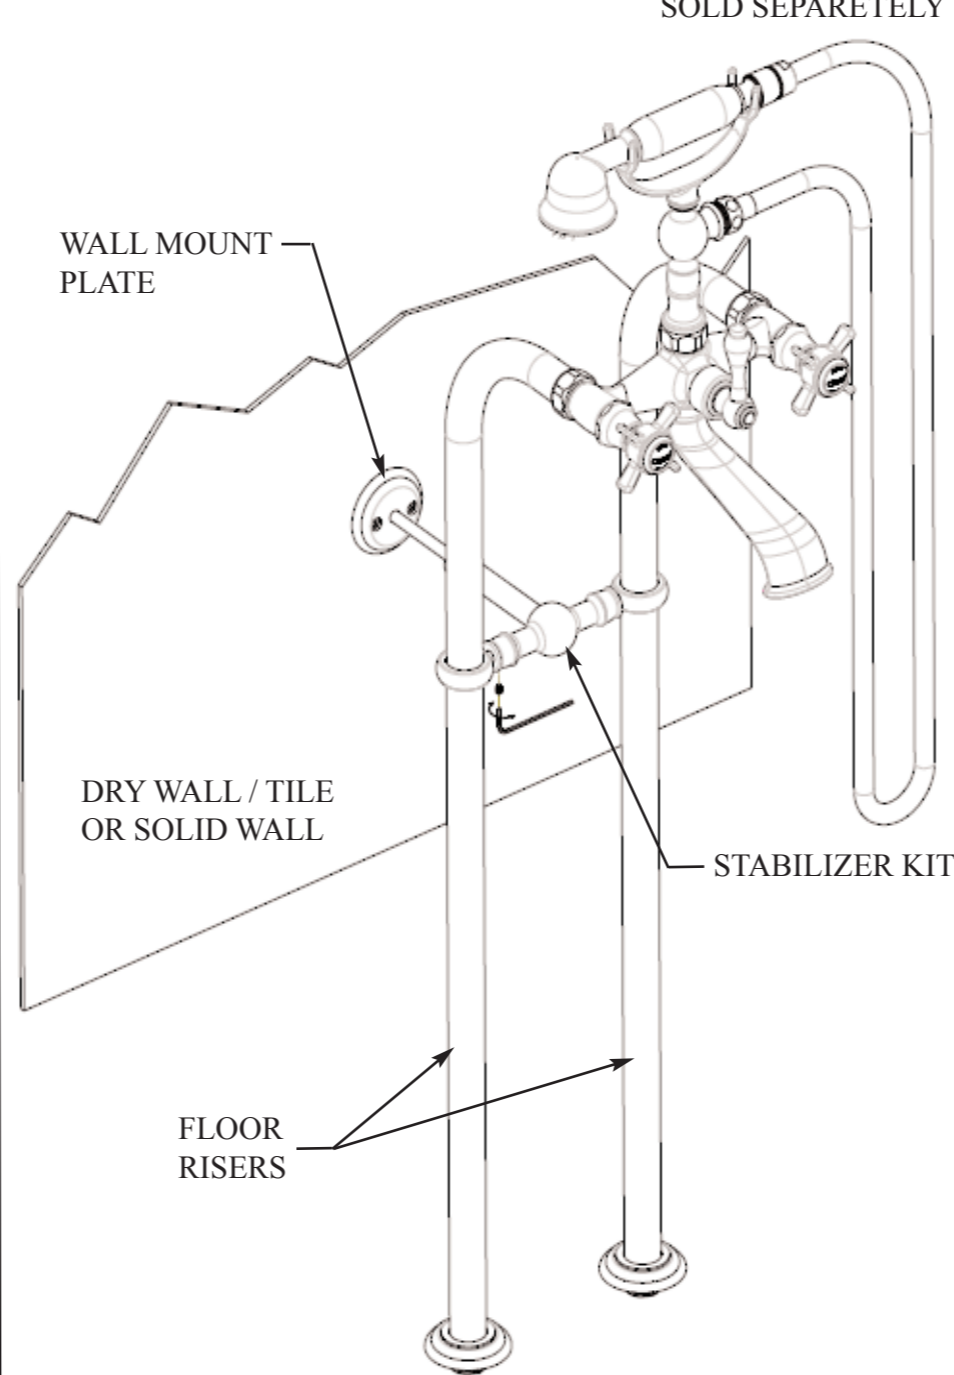

Figure 2
2. Adjust Stabilizer Rings to fit over Floor Risers (See Figure 2)